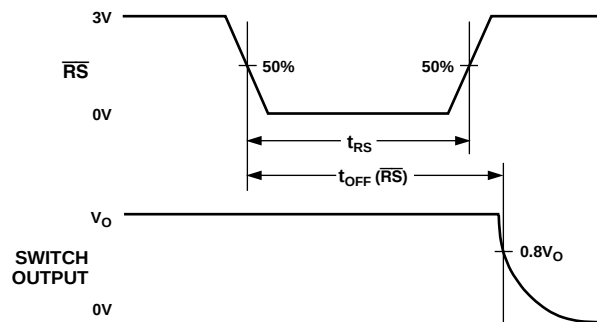

Figure 2.
Figure 2 shows the Reset Pulsewidth, t_{RS} , and the Reset Turnoff Time, $t_{OFF} (RS)$.